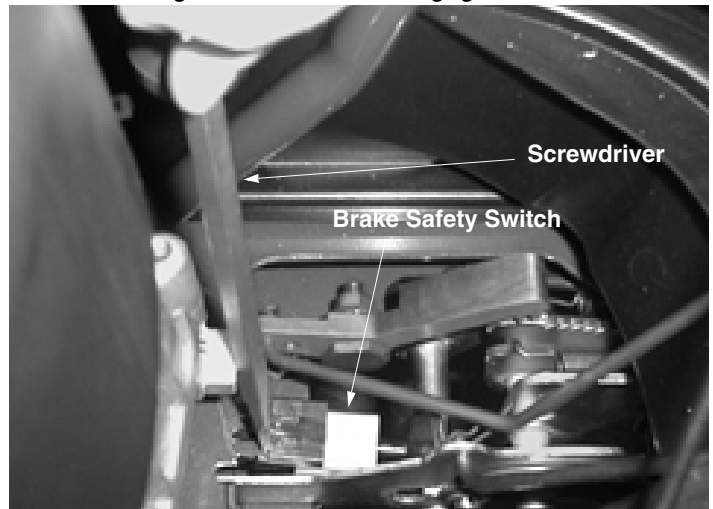

Figure 6
19. Pry the brake safety switch off the tab in the frame as shown. See Figure 6.